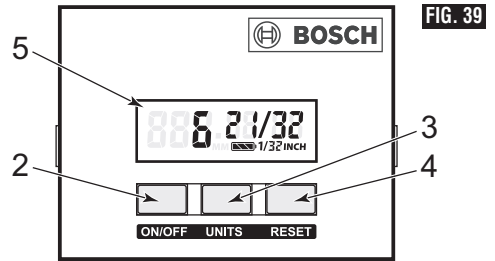

FIG. 39
**ON/OFF BUTTON AND MEMORY (see figure 39)
UNITS BUTTON (see figures 39 & 40)
RESET BUTTON (see figures 39 & 40)